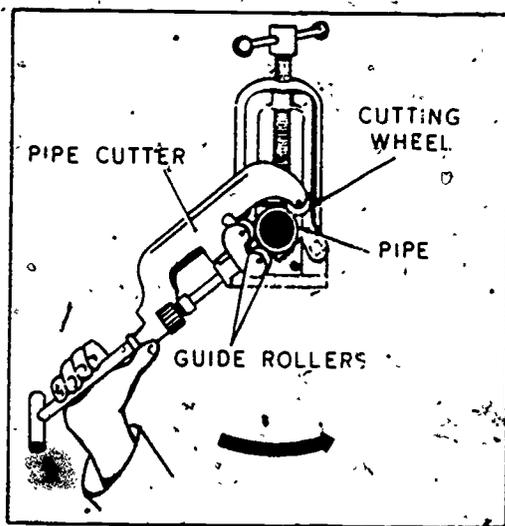

Figure 4-22. Cutting a pipe with a pipe cutter.
*Cutting steel pipe manually.* After you have measured and marked the steel pipe in accordance with the instructions given in Volume I, place it in a pipe vise, where it can be held for the cutting operation. A pipe inserted in a pipe vise, ready to be cut with a pipe cutter or hacksaw, is illustrated in figure 4-21. A pipe cutter ready to make the first turn on the pipe to be cut is illustrated in figure 4-22. To cut a steel pipe with a pipe cutter, open the jaws of the cutter by turning the handle counterclockwise. Now, place the pipe cutter around the pipe on the mark where the pipe is to be cut. Center the cutter so that the cutting wheel is on the mark. Close the jaws of the pipe cutter lightly against the pipe by turning the handle clockwise. After the wheels contact the pipe, rotate the